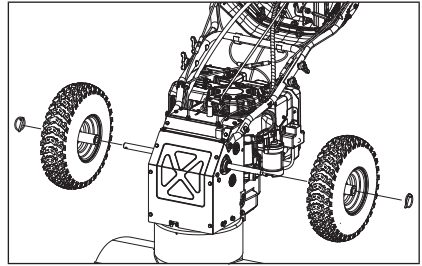

Figure 65
2. Remove the wheels by first removing the wheel clip and then sliding the wheels off the axles. (Fig. 65)